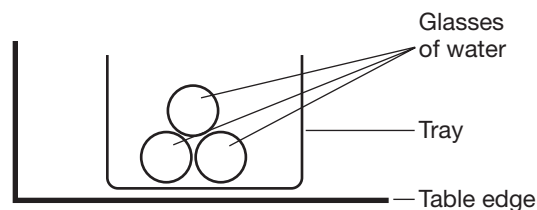

Figure 1. Overhead view
5. Place the third glass between the other two, forming a triangle shape. See Figure 1.